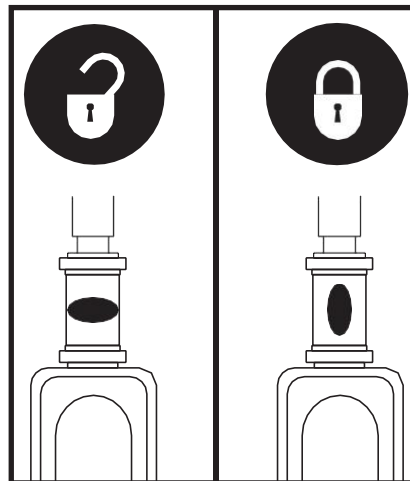

Figure 32. Tiller Lock Knob
1. Remove the key from the key switch and then lock the tiller in the straight-ahead position by pushing the tiller lock knob in and turning it clockwise 90°. See **figure 32**. The front wheel must face forward in order to lock the tiller.
6. Unlock the tiller by turning the tiller lock knob 90° counterclockwise. See figure 32.